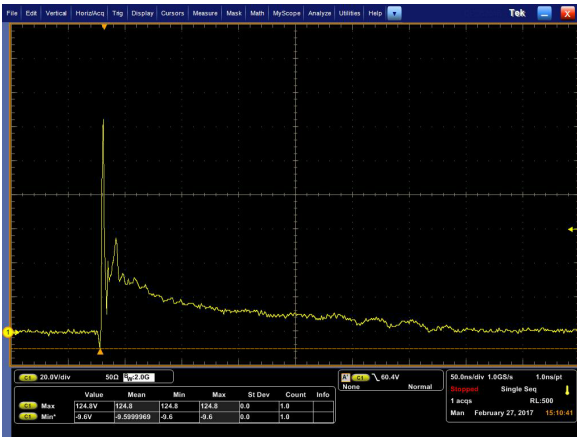

**Fig1. Pulse Waveform**
- Surge current waveform per Figure 1.